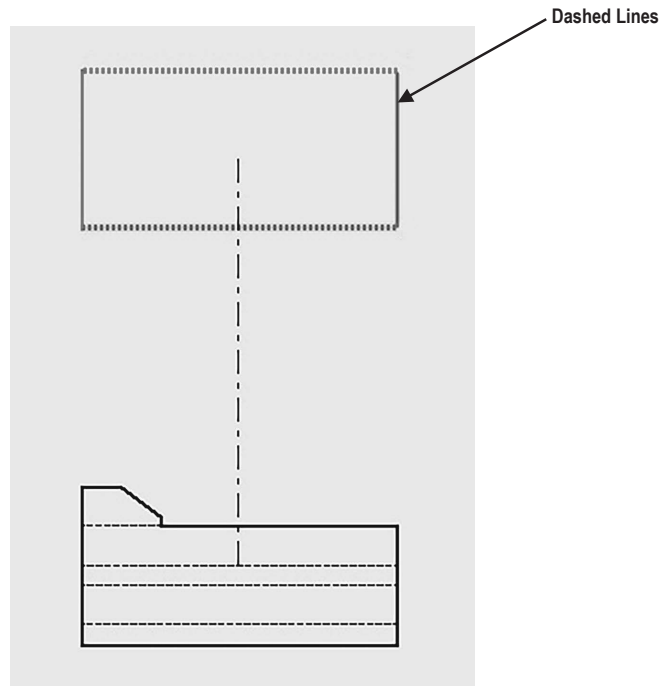

Figure 19
24. Notice the dashed lines outlining the top view as shown in Figure 19. This indicates that the view has been placed.